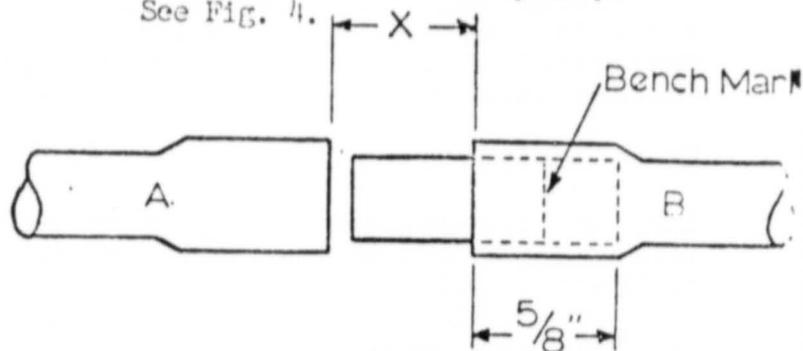

Figure 4
- i) Insert the four (4) male coupling nipples into the swedges of collector "B" until they stop. See Fig. 4.
- j) Carefully place collector "B" into position. Note there is only $\frac{1}{8}$ " gap between end of header swedge and edge of nipple. See Fig. 4.